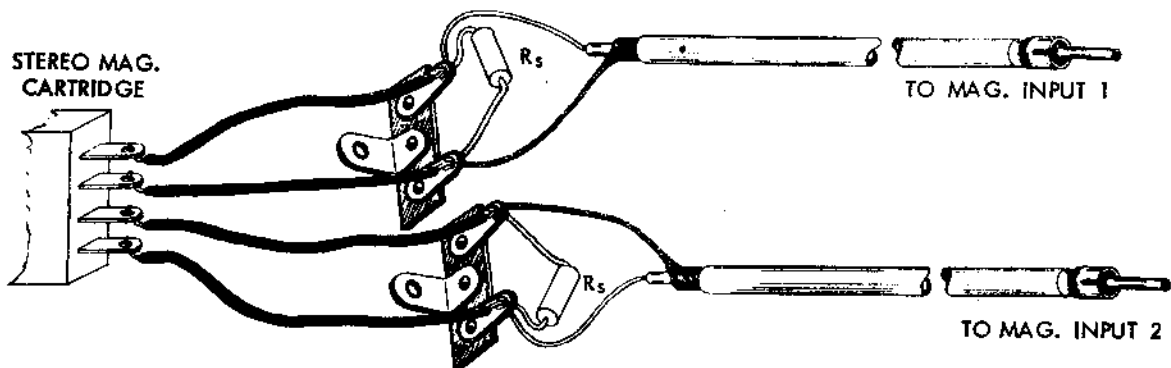

FIG. 1
1) **MAG. PHONO 1, MAG. PHONO 2:** These inputs are intended for the two outputs of a stereo magnetic cartridge, or for a stereo ceramic cartridge with adaptors. Four-terminal cartridges (each sensing element brought out to a separate pair of terminals) are generally advantageous as compared to three-terminal cartridges (one terminal of each sensing element brought out to a common terminal) because the possibility of increased hum due to a ground loop can be avoided. The correct method for wiring a four-terminal cartridge is shown in Fig. 1. (If the cartridge is a three-terminal type, the two inside contacts of the cartridge shown in Fig. 1 are effectively replaced by a common terminal.) The loading presented to each output of the cartridge by each MAG. PHONO input is 100,000 ohms. If a lower loading resistance is required by the particular cartridge used, connect a shunt resistor of appropriate value from each outside terminal of the cartridge to the center (common) terminal. This can be done actually by mounting a 3-post terminal strip on the underside of the phonograph mounting board at a point near the lead break-out from the pickup arm. These shunt resistors are then wired to this terminal strip as shown in Fig. 1. The value of each of the two shunt resistors (R_s) can be determined from the desired loading resistance (R_l) by this formula